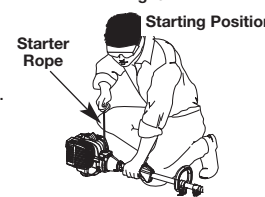

Fig. 6
WARNING: Avoid accidental starting. Make sure you are in the starting position when pulling the starter rope (Fig. 6). To avoid serious injury, the operator and unit must be in a stable position while starting.
5. Crouch in the starting position (Fig. 6). Squeeze the throttle control lever. Pull the starter rope 5 times.